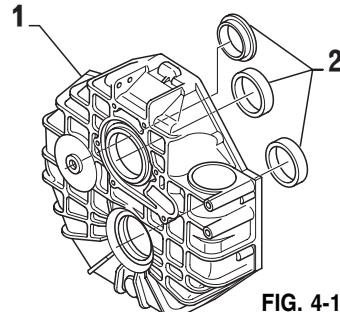

FIG. 4-1
Heat output half of the housing (item 1, Fig. 4-1) in an oven to approx. 120 °C (248 °F).
Insert outer races (item 2, Fig. 4-1) into housing.